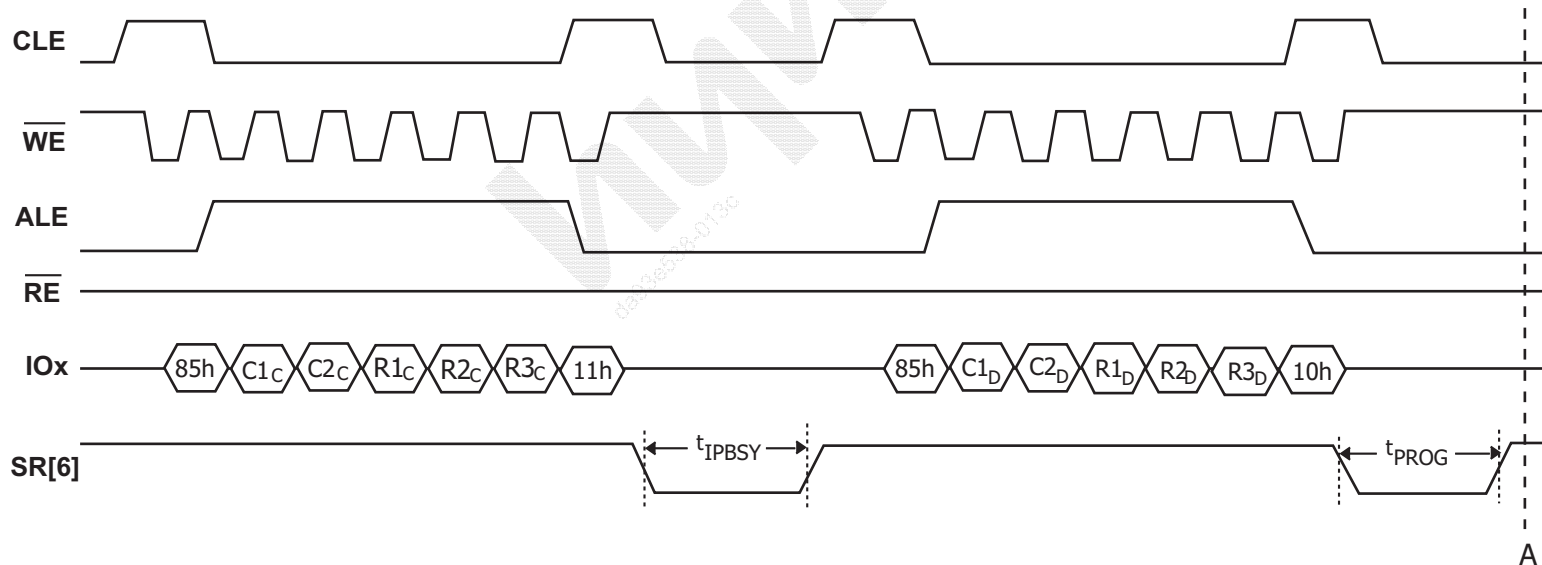

Figure 25: Multiple plane copy back program (ONFI 1.0 protocol)
Same restrictions on address of blocks on plane 0(A) and 1(B) and allowed commands as **Figure 25** apply.